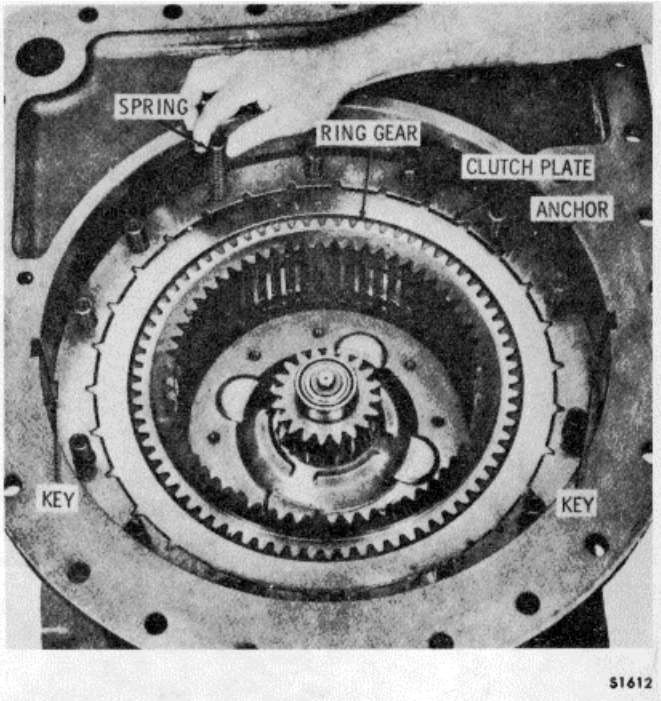

Figure 15-73. Removing First-and-Second-Gear Clutch Piston Return Springs.
7. Remove fourteen first-and-second-gear clutch piston return springs (Figure 15-73). Remove the low-range ring gear. Remove the eight first-and-second-gear clutch plates. Remove the first-and-second-gear clutch anchor.